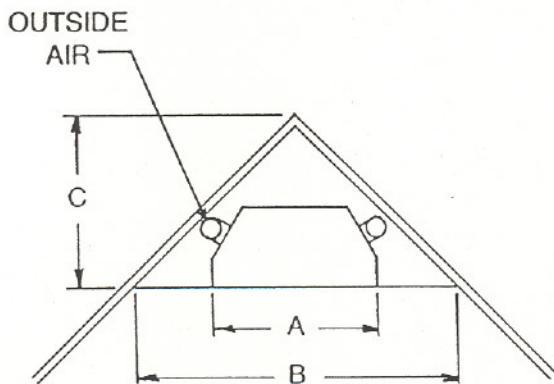

Figure 3
- d. Across a corner. (See Figure 3 for minimum space.)